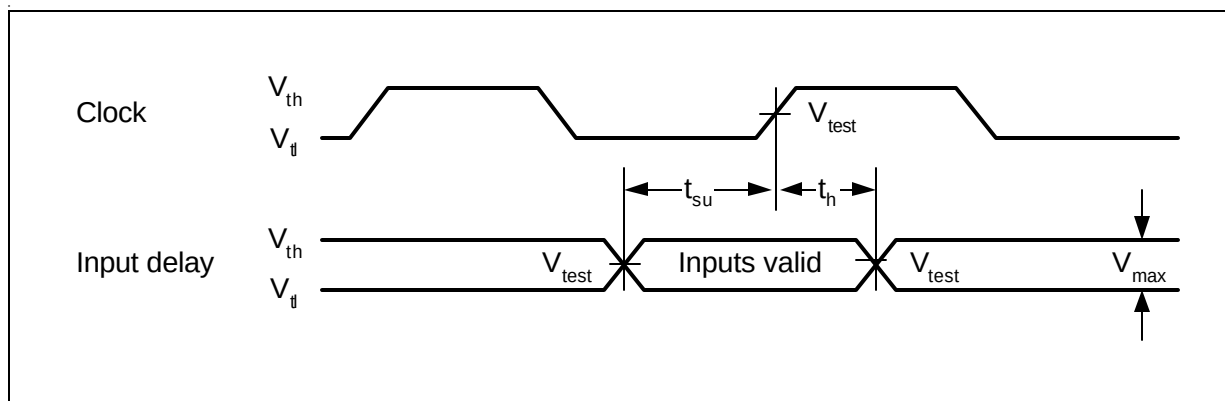

Figure 9-3 PCI Input Timing Measurement Conditions
*Note: Rise and fall times are specified in terms of the edge rate measured in V/ns. This slew rate must be met across the minimum peak-to-peak portion of the clock waveform shown in Figure 9-3.*